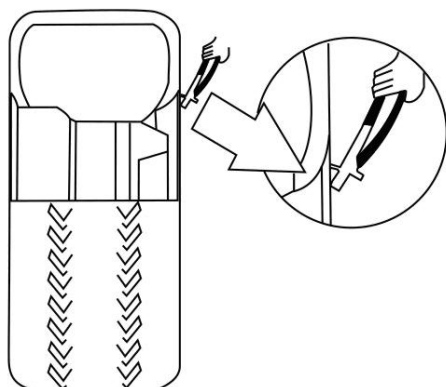

Fig 11
- Remove all the foreign substance and weights from the rim (as fig.11) .